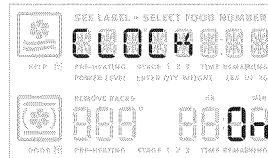

Fig. 2
1. Press and continue to press USER PREF until you reach the preset clock display mode -Fig. 2-